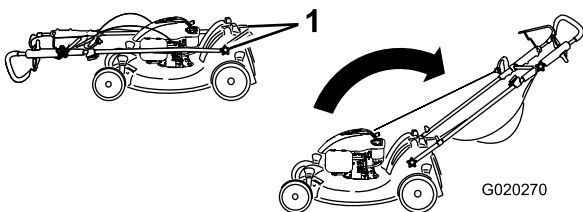

Figure 3
1. Remove the handle knobs from the machine housing (Figure 3).
1. Handle knob (2)
3. Install and tighten the handle knobs that you removed in step 1 (Figure 3).